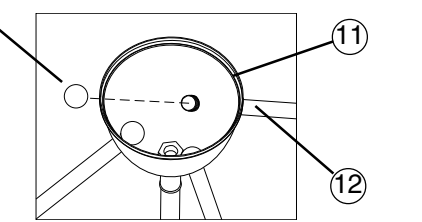
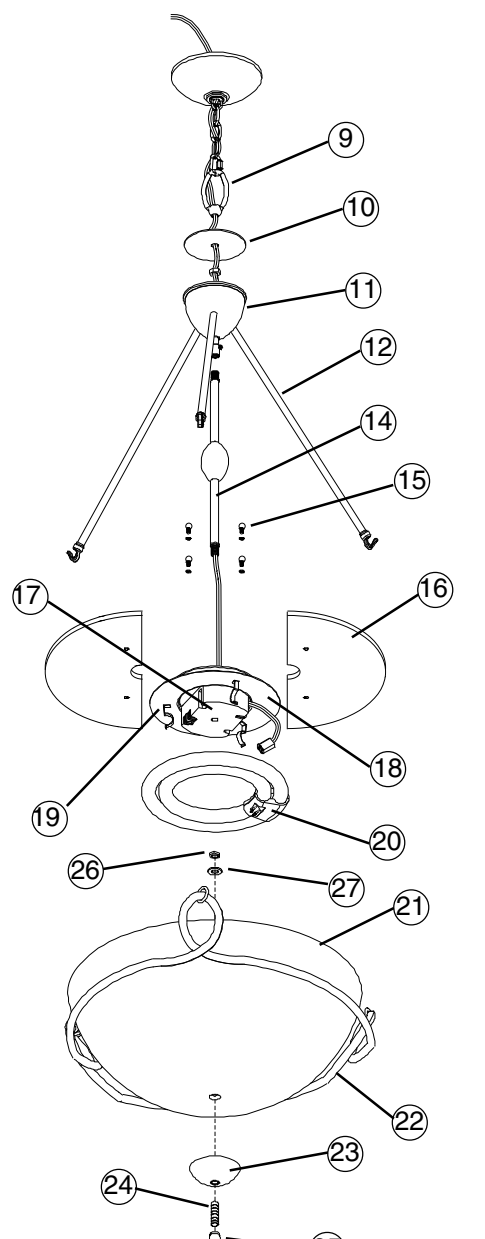
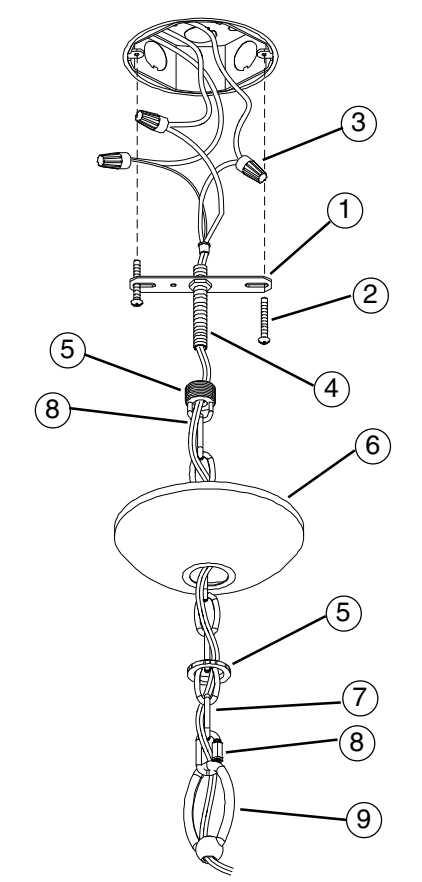
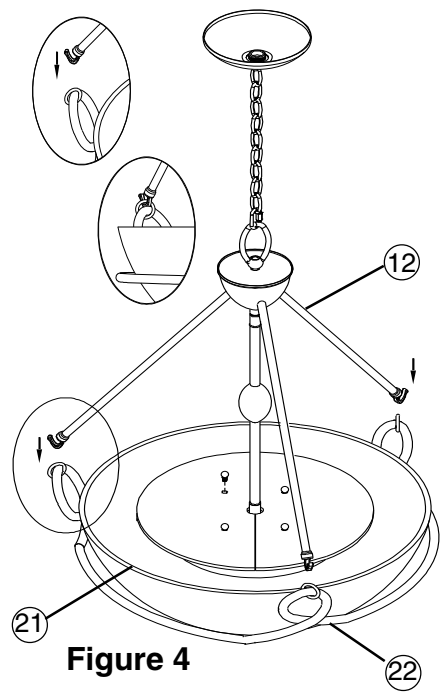

Figure 2
Figure 1
Figure 3
Figure 4
2. **Hold fixture supply wires and thread one end of the Center Stem Assembly (14) into the Housing Assembly (18) and the other end into hang straight on Oval Font Assembly (11).**
3. **Install Support Rods (12) to Oval Font Assembly (11).** Insert rod through open hole. Install lock washer over threaded portion and secure with Finial (13). **See Figure 2.**
4. **Place Oval Font Cover (10) onto Oval Font Assembly (11).** Install Loop (9) onto protruding threads-secure tightly.
5. **To install top Glass Panels (16),** remove Ball Stud Finials (15) from backplate of Housing Assembly (18). Place Glass Panels (16) on backplate and align with mounting holes. Reinstall Ball Studs - 2 per glass panel. To avoid breaking glass, do not over tighten Screw studs.
6. **Assemble mounting hardware: Thread Threaded Pipe (4) about 1/2" into center hole of Crossbar (1).** Hold short end of Threaded Pipe (4) and place Canopy (6) over opposite end (Note: Crossbar will be inside of canopy). Thread Canopy Loop/Nut (5), attached to end of chain, onto end of Threaded Pipe. **See Figure 3.**
7. **To determine desired length of chain** use Lockable Link (8) and hook Chain (7) temporarily to Loop (9). Hold fixture up to ceiling to determine desired length of Chain and remove links if needed. *Note: Use pliers to remove links to adjust Chain to desired length or call Technical Support to purchase additional chain.* Attach end link of Chain (7) to Loop (9) with Lockable Link (8). Route the ground & fixture supply wires through every fourth link of chain and through center of 1-1/2" Threaded Pipe (4) in Crossbar (1). Trim ground & fixture supply wires to extend approximately 6" beyond Threaded Pipe and strip 1/2" insulation from ends of wires. **See Figure 3.**
8. **Take fixture assembly by the Chain (7),** loosen Canopy Nut (5) completely and slide Canopy (6) down. Have one person help to support fixture while mounting Crossbar (1) to junction box with two 1-1/2" Screws (2). **See Figure 3.**
10. **Use Wirenuts (3) to connect brown or clear fixture wire to the black power supply wire and brown or clear ribbed fixture wire to the white power supply wire. See Figure 3.**
15. **Thread Finial (25) onto Threaded Rod (24).** Place Decorative Cup (23) onto Threaded Rod and slide down to Finial. Insert this assembly into open hole on bottom of Glass Diffuser (21) (Finial and cup should be on outside of Glass Diffuser). On inside of Glass Diffuser (21), install Foam washer (27) and Hex nut (26) onto Threaded Rod (24). Foam Washer should be between glass and Hex Nut.
16. **Place Decorative Frame Assembly (22) on flat surface.** Place Glass Diffuser (21) onto Frame Assembly. Carefully lift Diffuser and Frame Assembly up to Support Rods (12). Place all three loops on Frame Assembly onto Support Arm Hooks. Center glass in frame. **See Figure 4.**
2. **Sostenga los alambres de suministro eléctricos del luminario y enrosque un extremo del Ensamblaje Central del Vástago (14) en el Ensamblaje de la Carcasa (18) y el otro extremo dentro del Colgadero Recto en el Ensamblaje de Fuente Ovalada (11).**
3. **Instale las Varillas de Soporte (12) al Ensamblaje de Fuente Ovalada (11).** Inserte la varilla por el agujero abierto. Instale una arandela de cierre sobre la porción roscada y asegure con un Finial (13). Vea Fig. 3. Coloque el otro extremo de cada Varilla de Soporte sobre la clavija sobresaliente en cada brazo del Luminario. **Vea Fig. 4.**
4. **Coloque la Cubierta de Fuente Ovalada (10) dentro del Ensamblaje de la Fuente (11).** Instale el Lazo (9) en las roscas sobresaliente asegure firmemente.
5. **Para instalar los paneles de vidrio superiores (16),** quite los Finales Tipo Esfera (15) de la placa trasera del Ensamblaje de la Carcasa (18). Coloque los Paneles de Vidrio (16) en placa trasera y alinéelos con los agujeros de montaje. Vuelva a instalar los Finales 2 en cada panel de vidrio. Para evitar que se rompa el vidrio- no sobre-apriete los Finales.
6. **Ensamble el herraje de montaje:** Rosque el Tubo Roscado (4) alrededor de 1/2" en agujero de centro de la Barra Transversal (1). Sostenga el extremo corto del Tubo Roscado y coloque el Espaciador de Sobrecielo (6) sobre el extremo opuesto (*Nota: La Barra Transversal estará dentro del Espaciador de Sobrecielo*). Rosque la Tuerca de Lazo del Espaciador de Sobrecielo (5), la cual está sujeta al extremo de la cadena, al extremo del Tubo Roscado. **Vea Fig. 1.**
7. **Para determinar la longitud deseada de la cadena** use el Eslabón de Cerradura (8) y enganche la Cadena temporalmente al Lazo (9). Sostenga el luminario hasta el techo para determinar longitud deseada de la Cadena y si necesario, quite eslabones. *Nota: Use alicates para quitar los eslabones y ajustar la Cadena a la longitud deseada o llame a Soporte Técnico para comprar cadena adicional.* Sujete el eslabón final de la Cadena (7) al Lazo (9) con el Eslabón de Cerradura (8). Encamine los alambres de tierra y de suministro de electricidad del luminario a través cada cuarta eslabón de la cadena y por el centro del Tubo Roscado de 1-1/2" (4) en la Barra Transver sal. Corte los alambres de hacer tierra y los de suministro electricidad del luminario para que extiendan aproximadamente 6" más allá de Tubo Roscado y quite 1/2" del material aislante del extremo de los alambres. **Vea Fig. 1.**
8. **Agarre el ensamblaje del luminario por la Cadena,** suelte la Tuerca del Espaciador de Sobrecielo totalmente y deslice el Espaciador hacia abajo. Haga que una persona ayude a sostener el luminario mientras este montando la Barra Transversal (1) a la caja de ensambladura con dos Tornillos de 1-1/2" (2). **Vea Fig. 1.**
10. **Use Capuchones de Alambres (3) para conectar el alambre marrón o transparente del luminario al alambre de suministro de energía negro y el alambre del luminario acanalado marrón o transparente al alambre de suministro de electricidad blanco. Vea Fig. 3.**
15. **Enrosque el Finial (25) en la Varilla Roscada (24).** Coloque una Copa Decorativa (23) en la varilla roscada y deslícela hacia abajo hasta el finial. Inserte este ensamblaje en el agujero abierto en el fondo del Difusor de cristal (21) (El finial y la copa deben estar en el exterior del difusor de cristal). Adentro del Difusor de cristal (21), Instale una Arandela de Espuma (27) y una Tuerca Hexagonal (26) en la Varilla Roscada (24). La Arandela de Espuma debe estar situada entre el vidrio y tuerca hexagonal.
16. **Coloque el Ensamblaje del Marco Decorativo (22)** superficie plana. Con cuidado levante el Difusor y Ensamblaje del Marco hacia arriba hasta los Varillas de Soporte (12). Coloque los tres lazos del ensamblaje del marco en los ganchos de los varillas de soporte. Centre el vidrio en el marco. - Vea Fig. 4.